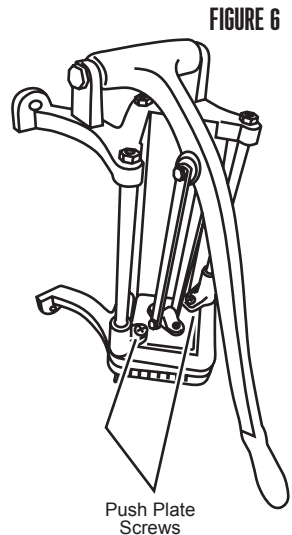

FIGURE 6
4. Replace the push plate and secure with 2 push plate screws (**FIGURE 6**).
3. To remove the push plate, put the handle in the down position and remove the 2 push plate screws from the top of the push plate (**FIGURE 6**).